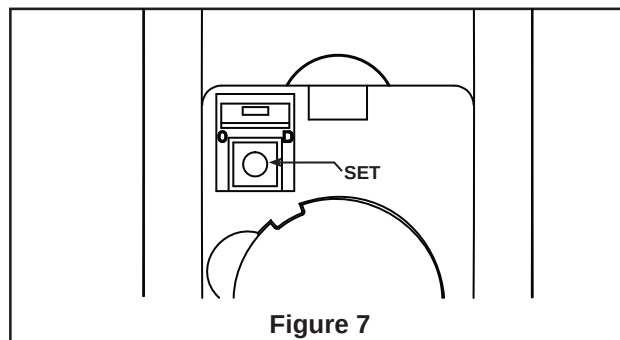

Figure 7
- ☐ 9. If you have encountered an issue during the set up process, you can follow the below procedure to clean the memory code of your handheld remote: (Figure 7)